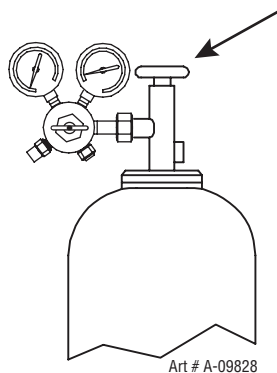

Figure 3-7: Open Cylinder Valve
8. Slowly and carefully open the cylinder valve (Figure 3-7) until the maximum pressure shows on the high pressure gauge.